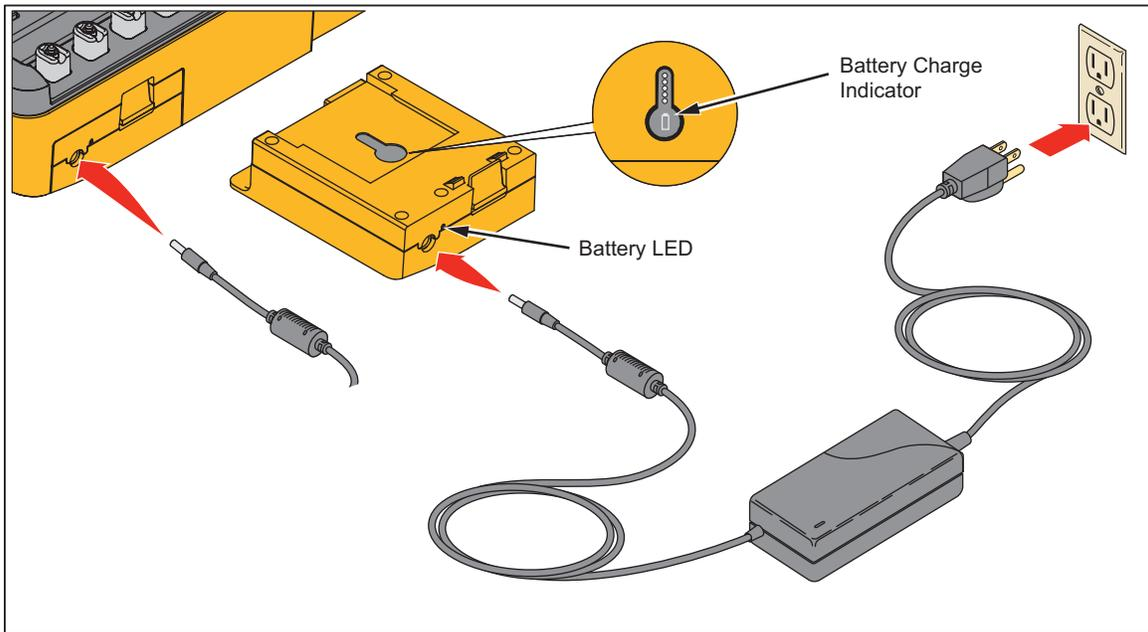

Figure 62. External Battery Charging Connections
1. As shown in Figure 62, connect the AC/DC power supply to the power connector on the battery pack.
When the battery pack is removed from the Product, push the button below the charge level indicators to see the battery charge level. See Figure 62.